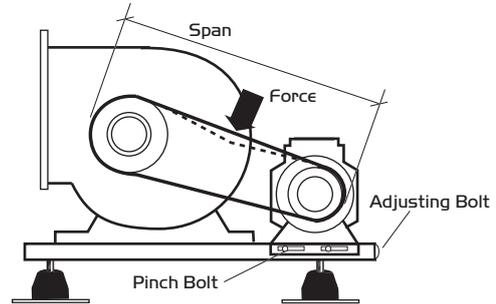

Figure 10. Adjusting the Drive Belts (larger units).
1. Measure the span length (See figure 10).
2. At the centre of the span, apply a force at right angles to the belt sufficient to deflect one belt 16mm for every metre of span length (see figure 10). The force required to deflect the 'V' belt should be from 0.5kg to 0.8kg.